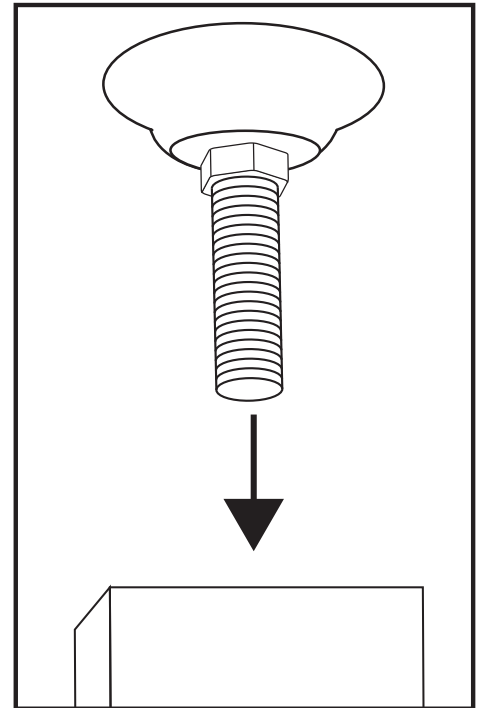

Figure 4
4. Attach the feet (#5) to each of the four corners by screwing them into the threaded receiver at the bottom at each corner. (see figure 4)